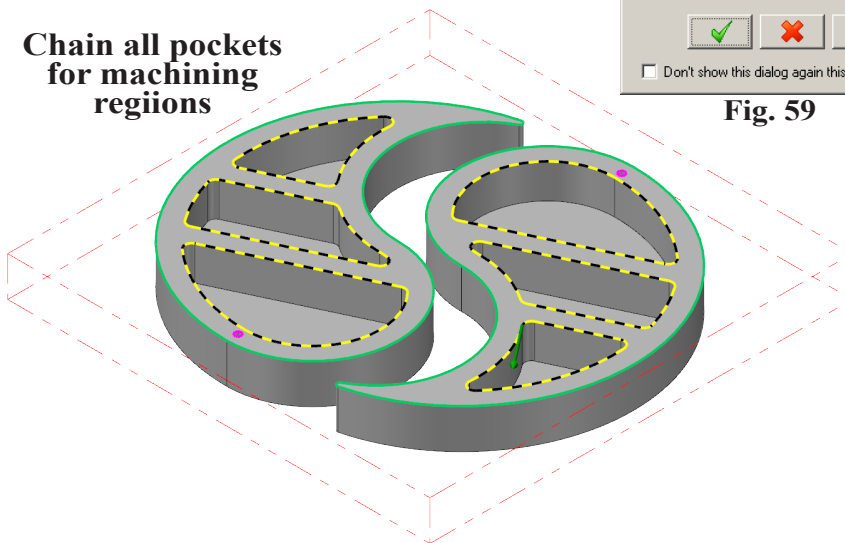

Fig. 61
Step 5. Click **any geometry of each pocket** to chain all pockets and click OK in Chain dialog box, **Fig 61**.